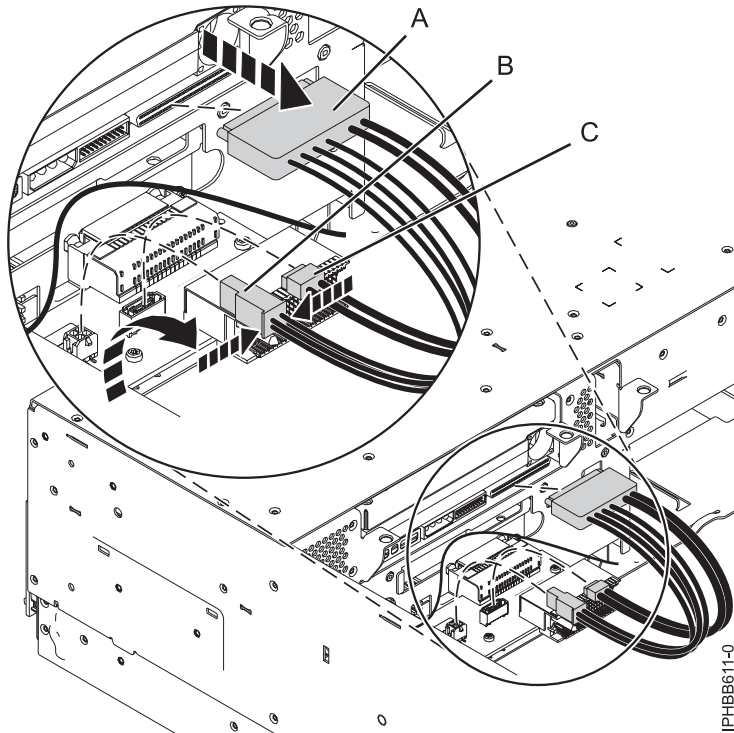

Figure 5. Disconnecting the media device cables from the disk drive backplane
10. Disconnect the cables from the back of the disk drive backplane, as shown in Figure 5 on page 7. If you have connected an external SAS cable, ensure that you disconnect the SAS cable from the disk drive backplane. For more information about external SAS port, refer to Installing the external SAS port in the 33E/8B or 36E/8C.